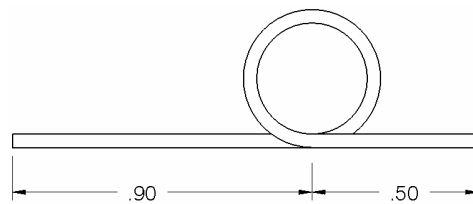

Figure 4 — Trim Spring
7. Trim the ends of the Spring P/N 514-014-00 as shown in Figure 4.